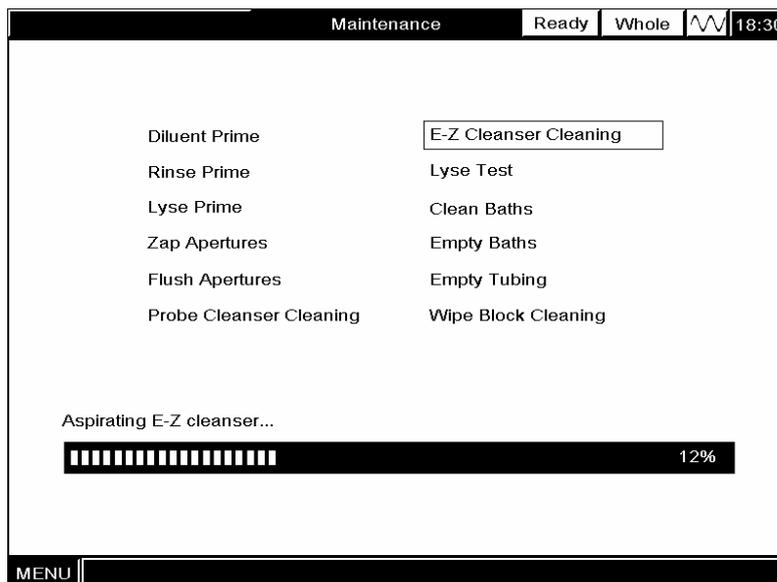

Figure10-12 Priming the baths and fluidic lines
2. Present the cleanser to the probe and press [ENTER] to aspirate the cleanser. When you hear the beep and the sample probe is out of the bottle, remove the cleanser. This analyzer will automatically prime the baths and fluidic lines with the aspirated cleanser and the progress is displayed on the screen, as Figure10-12 shows;